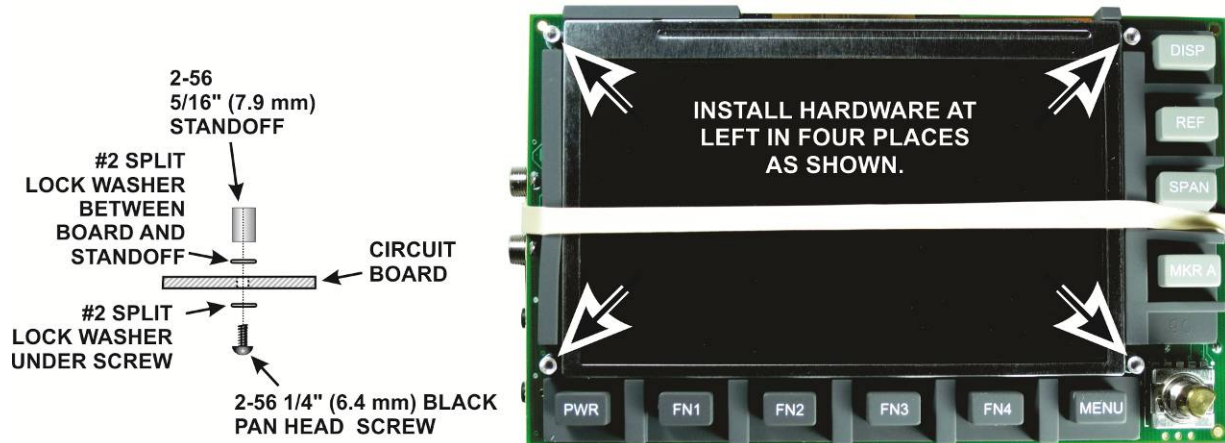

Figure 25. Mounting the Front Panel Standoffs.
□ Remove the front panel display board from its anti-static packaging. Do not remove the rubber band, It is holding the LCD in place. Mount four 2-56 5/16" (7.9 mm) standoffs on the front panel display board as shown in Figure 25. Be sure to place one lock washer between the standoff and the pc board as shown. This lock washer is important to establish the proper height of the standoff.